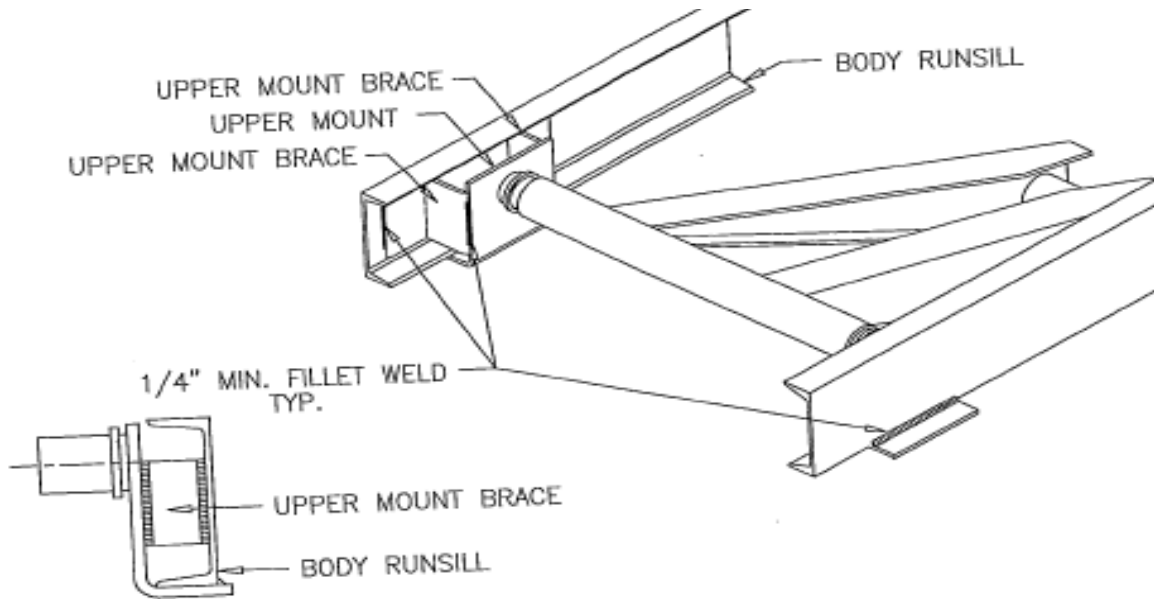

Figure 14
2. Upper Mounts (see figures 14,15, and 16)
C. Weld upper mounts to body runsills. Position and weld upper mount supports between upper mounts and body runsills. (see figure 14,15, or 16)